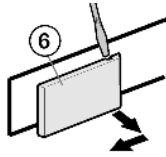

Fig. 6
- ▶ Using a screwdriver, detach the cover on the handle side *Fig. 6 (6)* and remove it outwards.